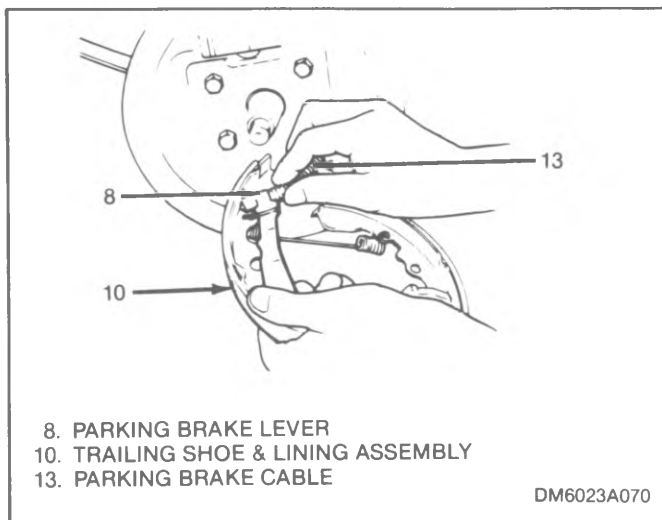

Figure 4-26. Disconnecting/Connecting Parking Brake Cable
1. Compress hold-down spring (1) and turn hold-down pin (2) to remove pins and springs.
2. Disconnect parking brake cable (13) from parking brake lever (8) as shown in figure 4-26.